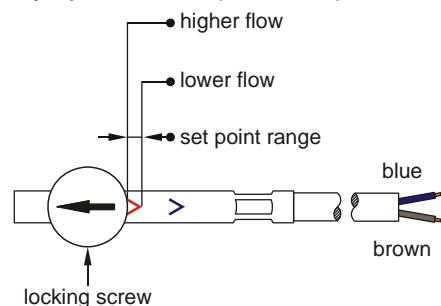
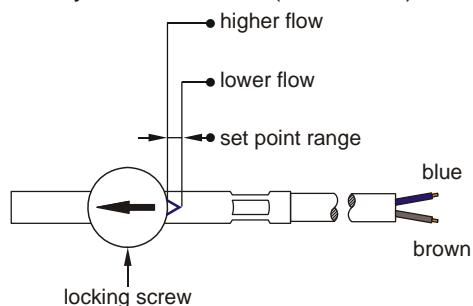

Fig. 20
Fig. 21
- ☛ Subsequently position the switching unit until the red (→ Fig. 20) or the blue arrow (→ Fig. 21) are visible at the entry of the switching unit guide for a desired make or break contact respectively (not required for change-over contact).